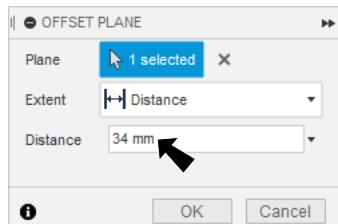

Fig. 16
Step 2. In the Offset Plane panel set, Fig. 16